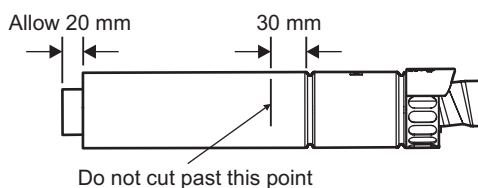

Fig. 19
4.7 REDUCING THE FLUE - Fig. 19
When the flue length required is less than the minimum stated in Section 4.6, paragraph 1, refer to Fig. 19.